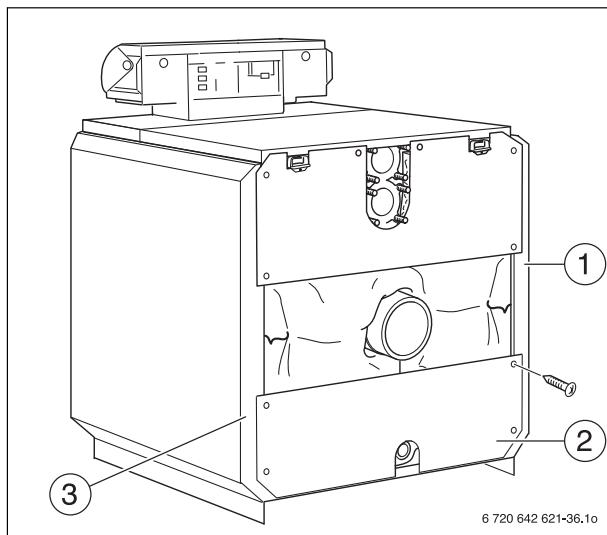

Fig. 42 Fitting the bottom rear boiler panel
- ▶ Screw the bottom rear boiler panel (Fig. 42, [2]) with the cut-out for the fill and drain connection down onto the side panels (Fig. 42, [1 and 3]).